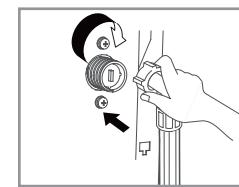

Fig. 22
- Insert the filter into the valve** and tighten up the inlet hose. (Fig. 22)